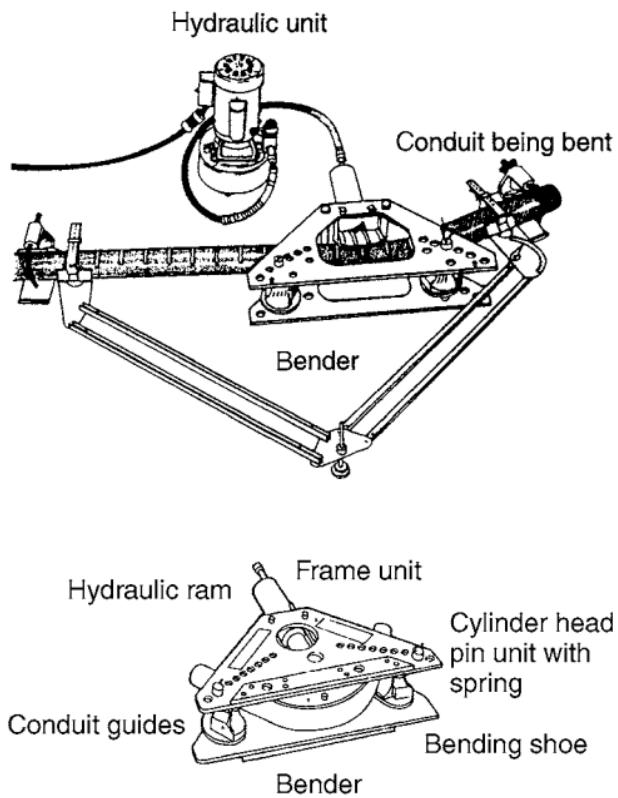

FIGURE 1-3. Hydraulic bender.
**Hydraulic Bender.** A hydraulic bender is used to bend conduit. A steel box houses the bender unit that can be used with two electric pumps or a manual pump. Figure 1-3 shows a typical hydraulic bender. Become familiar with its parts so that you are able to use it on the job.